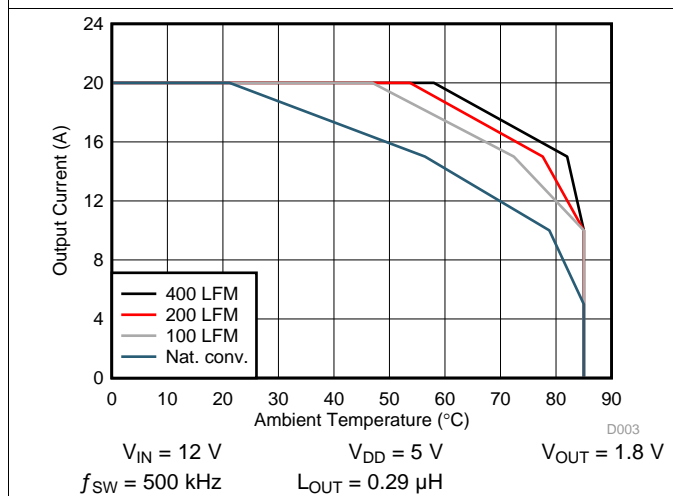

Figure 3. Safe Operating Area – PCB Horizontal Mount (1)
The SOA curves in the CSD97376Q4M data sheet give engineers guidance on the temperature boundaries within an operating system by incorporating the thermal resistance and system power loss. Figure 3 and Figure 5 outline the temperature and airflow conditions required for a given load current. The area under the curve dictates the safe operating area. All the curves are based on measurements made on a PCB design with dimensions of 4 in (W) x 3.5 in (L) x 0.062 in (T) and 6 copper layers of 1-oz copper thickness.